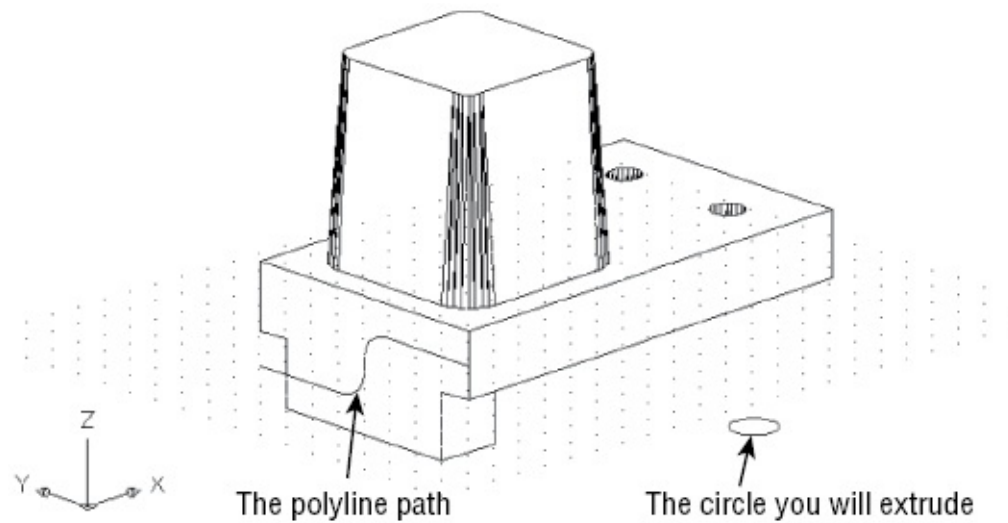

FIGURE 22.9 Hidden-line view showing parts of the drawing that you'll use to create a curved extrusion
1. Turn on the Path layer. This layer contains the circle that you'll extrude and the polyline path, which looks like an S, as shown in Figure 22.9.